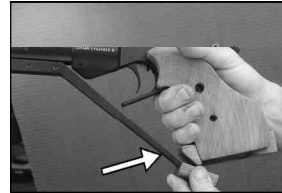

Figure 15a
2. Now return the cocking handle to its rest position by moving the handle to the rear of the pistol. See **Figure 15a**. You can tell that you have actuated the cocking handle completely by the fact that the return movement of the handle is under pressure. Keep your fingers away from the trigger and breech at all times when cocking the air pistol. See **Figure 15b**.